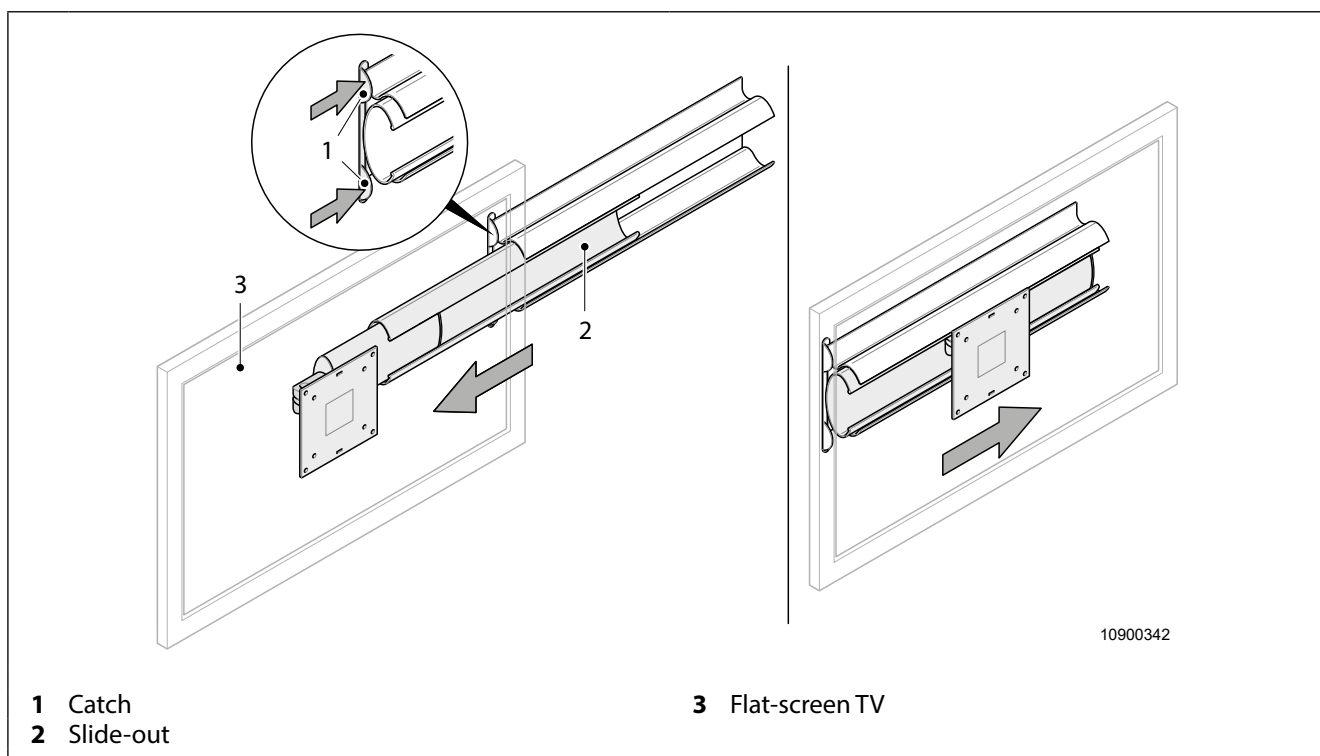

Fig. 25 Sliding flat-screen TV
1. Press and hold the catch (Fig. 25, item 1).
2. Pull out the flat-screen TV (Fig. 25, item 3) until it reaches its end position.
1. Push the flat-screen TV (Fig. 25, item 3) back until it clicks in place in the end position.